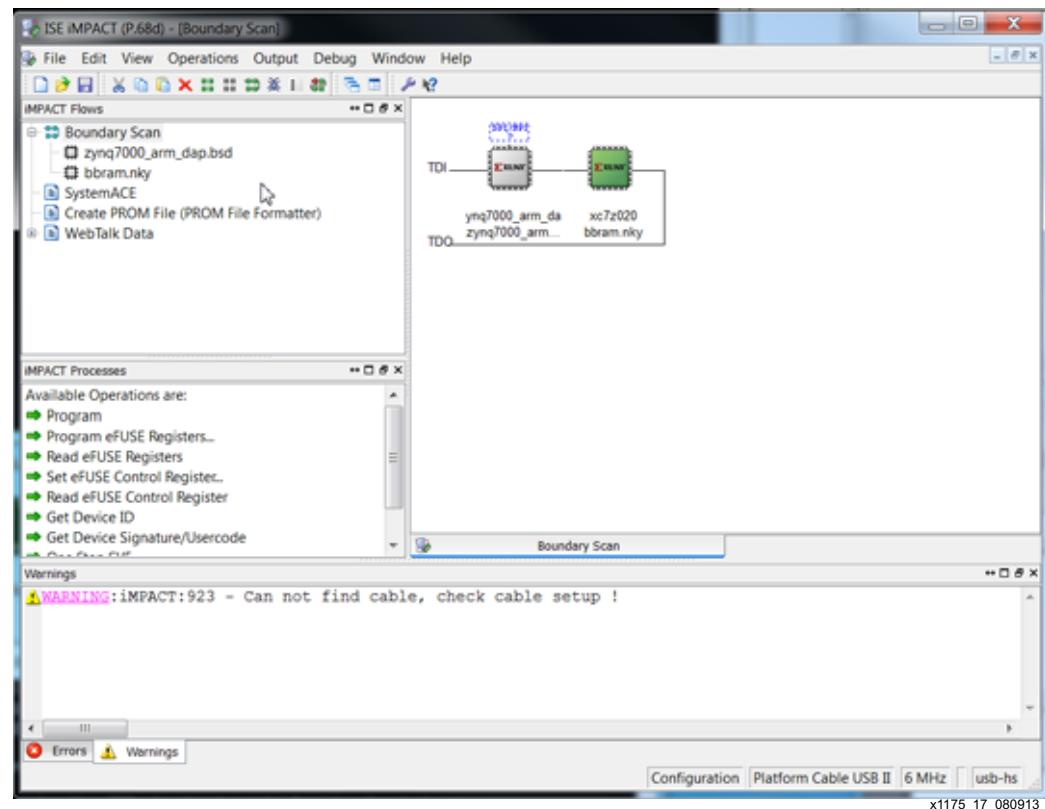

Figure 19: iMPACT - Detecting Concatenated JTAG Chain
1. As shown in Figure 19, invoke iMPACT with **impact &** if using Linux or **ISE Design Suite 14.6 > ISE Design Tools > 64-Bit Tools > iMPACT** if using Windows. Click **No** when prompted to save the project file. Click **Cancel** when the New iMPACT Project dialog box is displayed. Double-click **Boundary Scan** in the **iMPACT Flows pane**. Right-click and select **Initialize Chain**. Initialize the JTAG chain. If only one of the ARM® core or xc7z020 FPGA is displayed on the JTAG chain, change the Boot Mode selection switch to **JTAG** and re-initialize the chain.